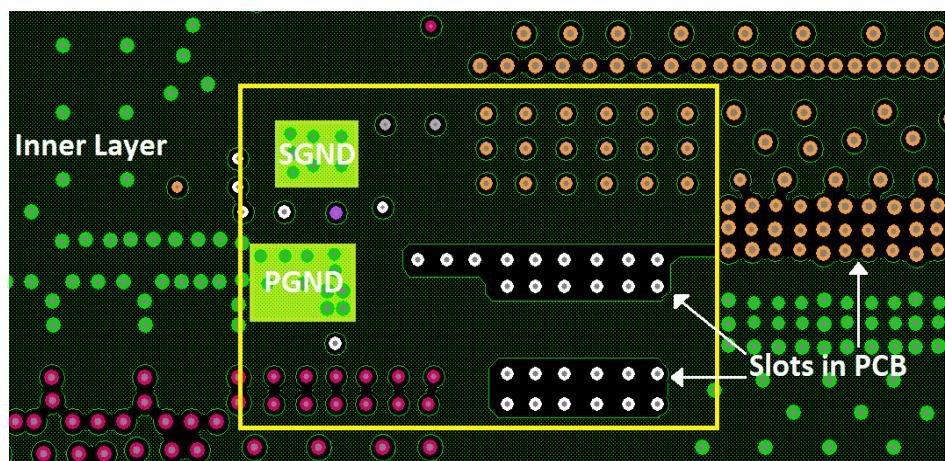

Figure 6. Layout Example - SGND is Connected to PGND Through Internal Layer
3. Use full ground planes in the internal layers (underneath the module) with shared SGND and PGND to simplify the layout design. Renesas recommends using slots (as shown in Figure 6 on page 7) to ensure that the switching current avoids the SGND pad of the module. Use as much GND plane as possible for the layer directly above the bottom layer (containing components such as input caps and output caps). Use the top and bottom layers to route the EN, VCC, and PGOOD signals.